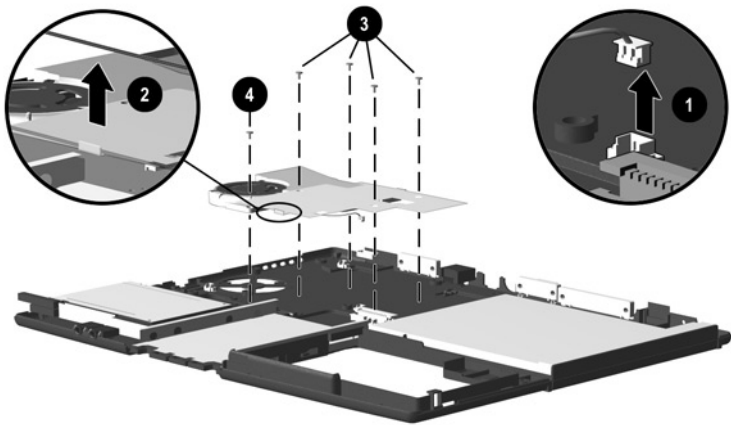

Figure 5-17. Removing the Heat Sink
2. Disconnect the fan cable ❶ from the system board (Figure 5-17).
3. Remove the modem cable from the clip in the heat sink ❷.
4. Remove the four black M2 × 4.0 screws ❸ and the pewter M2.5 × 7.0 screw ❹ that secure the heat sink to the base enclosure.